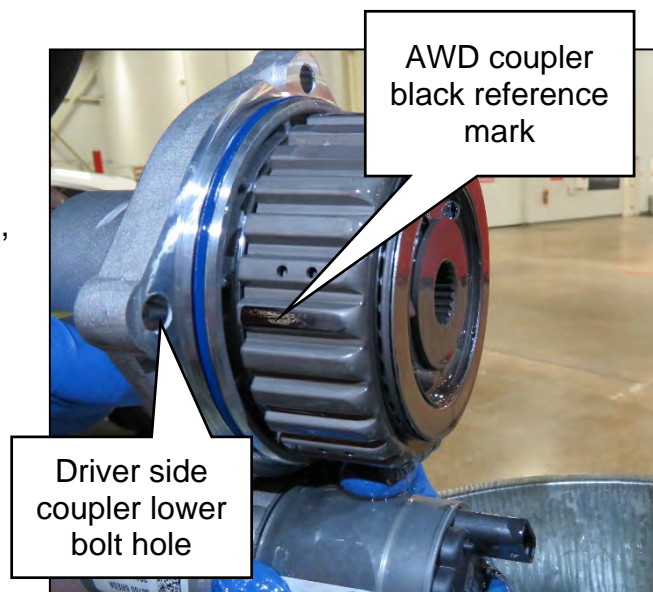

Figure 18
25. On the new AWD coupler, locate the black reference mark and align it with the driver side coupler lower bolt hole, as shown in Figure 18.